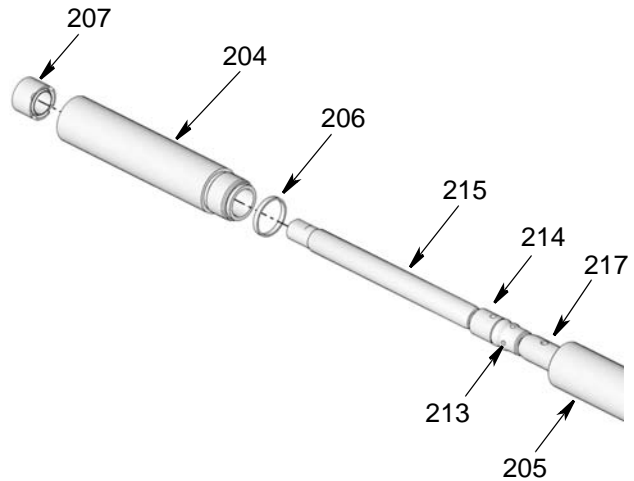

FIG. 31
18. Separate pump cylinder (204) from spacer cylinder (205) using two strap wrenches, working in opposite directions to loosen spacer cylinder. When cylinder (204) is loose enough, use your hand to unscrew and remove it from the other section (FIG. 31).